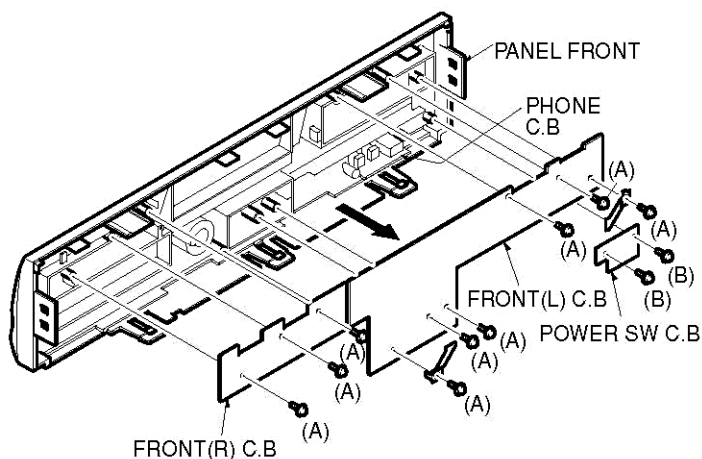

Fig. 4
- 1) Release 9 screws. (See Fig. 4)
- 1) Release 2 screws (B). (See Fig. 4)